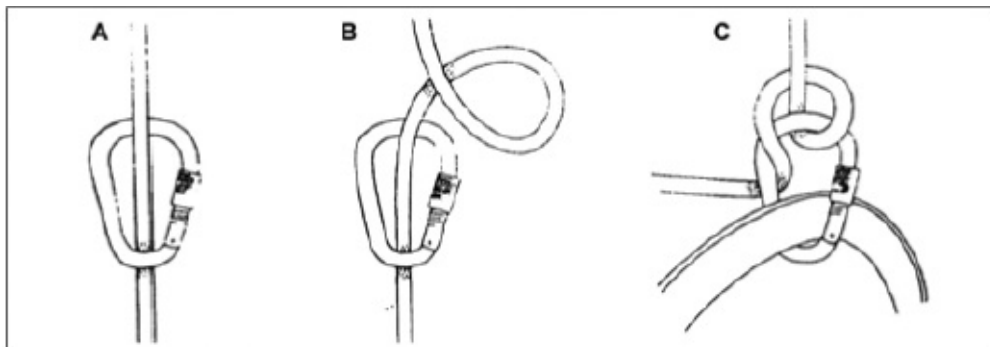

Figure 5-18. Munter hitch
- (1) **Munter Hitch.** One of the most often used belays, the munter hitch (Figure 5-18), requires very little equipment. The rope is routed through a locking, pear-shaped carabiner, then back on itself. The belayer controls the rate of descent by manipulating the working end back on itself with the brake hand.